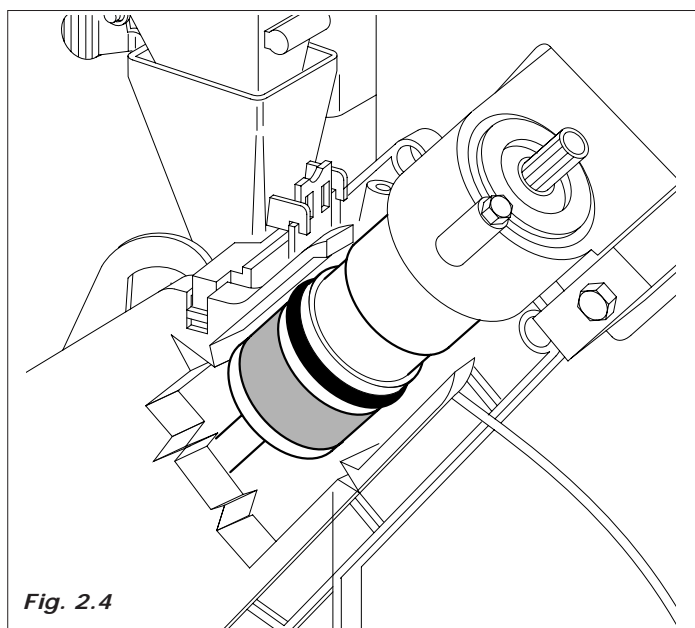
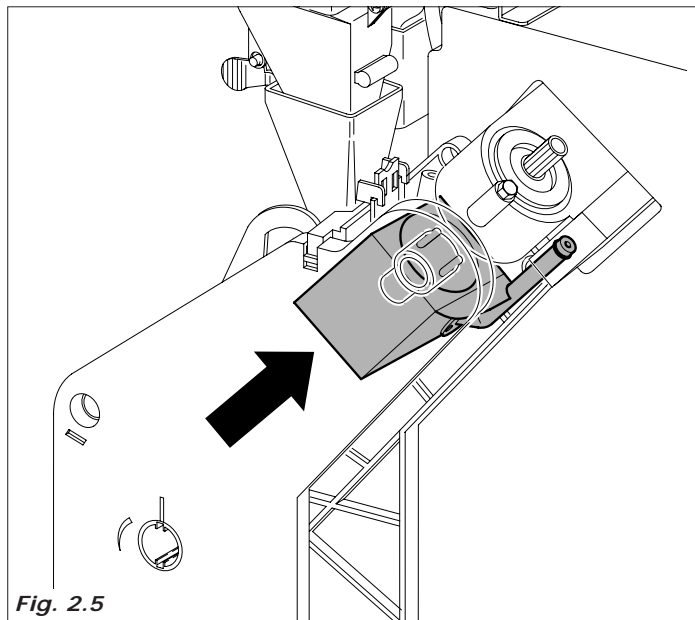

Fig. 2.4
Fig. 2.5
- the rotation group geared motor brings it into the dispensing position and simultaneously compresses the ground coffee (Fig.2.4 - Fig.2.5).